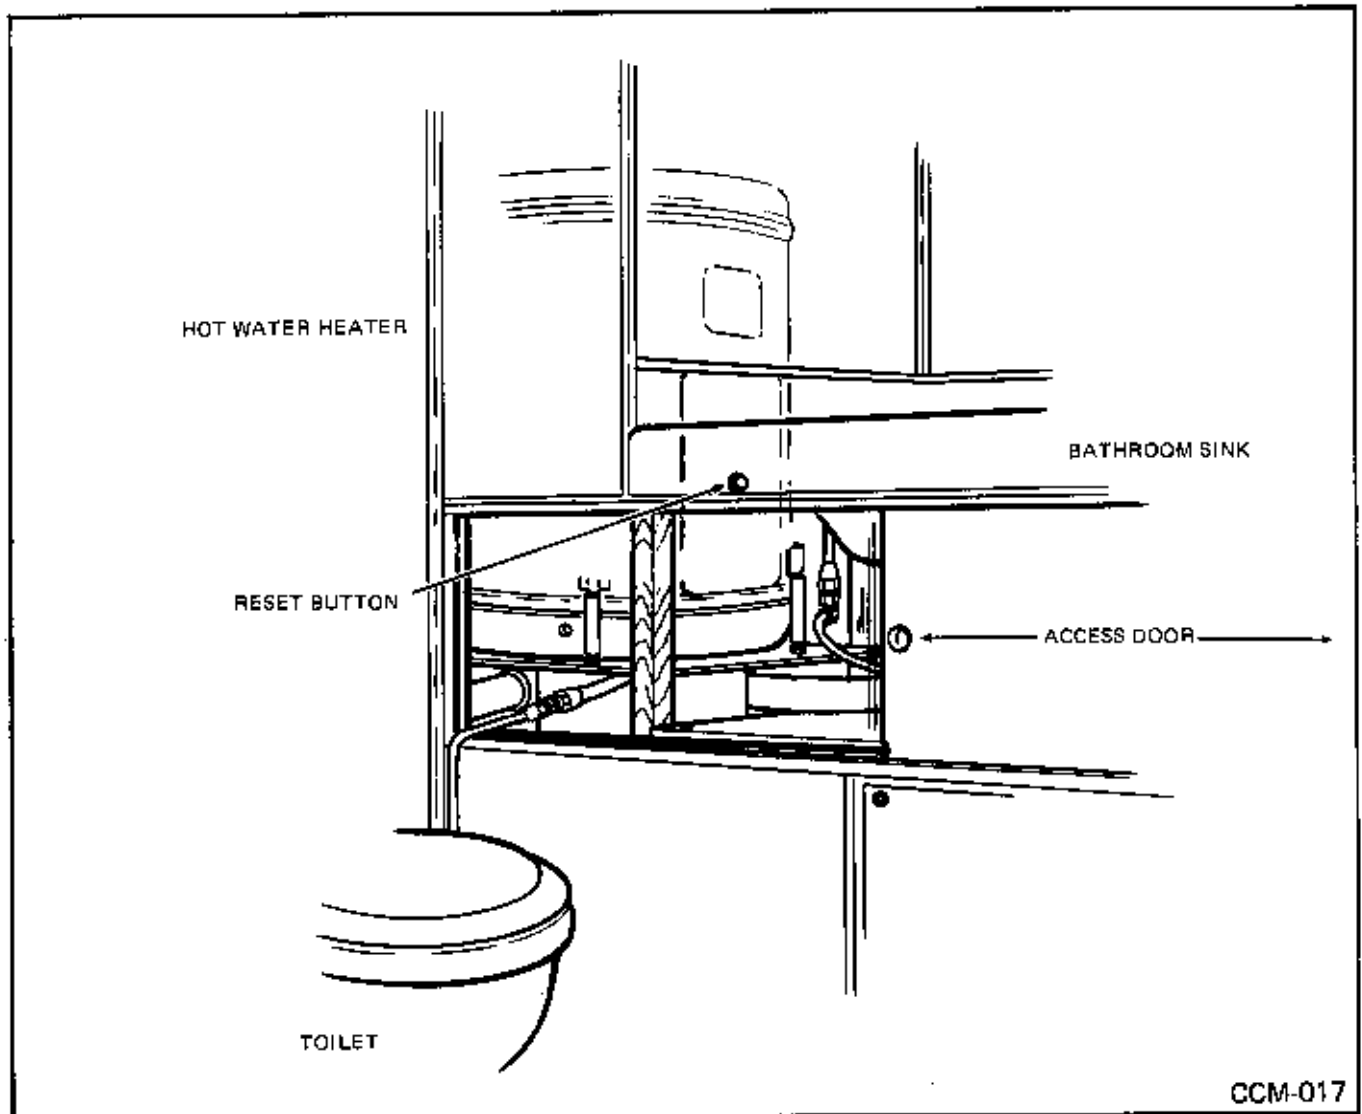

Fig. 18
**NOTE:** For initial starting or any time the heater has been drained of water, heater automatically shuts off and it is necessary to depress the Reset Button to start heater operation. (Fig. 18)